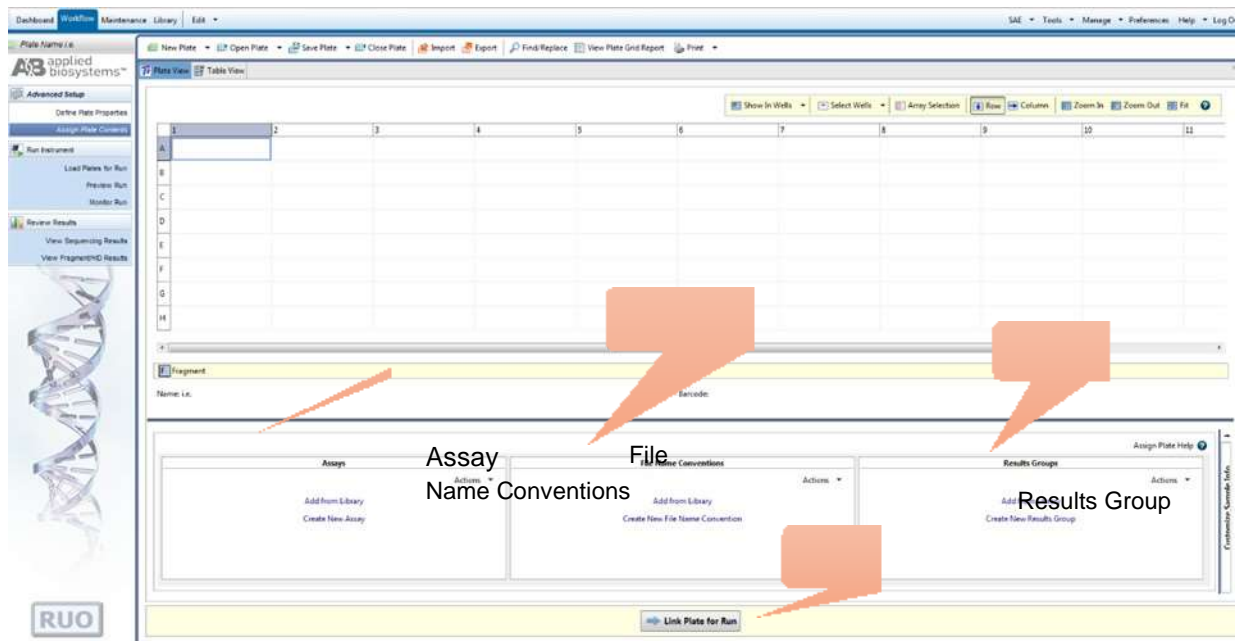

Figure 12. Screenshot for the “Assign Plate Contents” window on Applied Biosystems 3500 Data Collection Software
- In the *Assign Plate Window* (Figure 12), in the bottom left corner, in a box “Assay”, click *Add from Library* option to select the *Assay* created in Step 3.1.4. Click on the *Add to Plate* button and close the window.